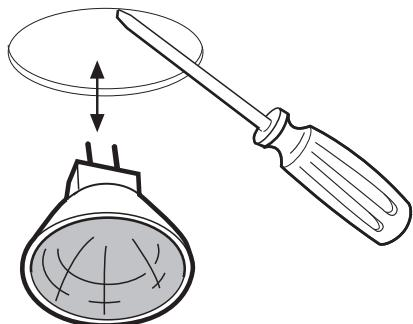
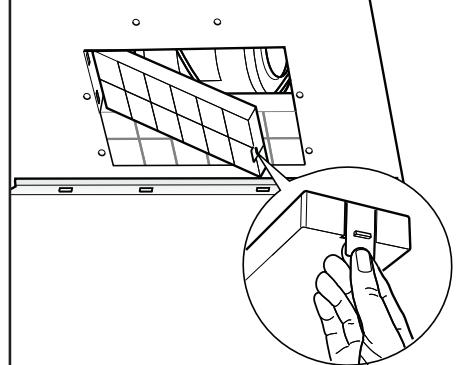

Fig.18
Fig.19
- **Filtering version:** We have two different types of Kit, one with extractable carbon filters (**Fig.18**) and the other one with re-usable carbon filters (washable). (**Fig.19**)
- Fix the flexible pipe to the deflector **M** and fix screw **I** as indicated in (**Fig.8**), the active carbon filters must be applied to the suction unit positioned inside the hood (**Fig.18**).